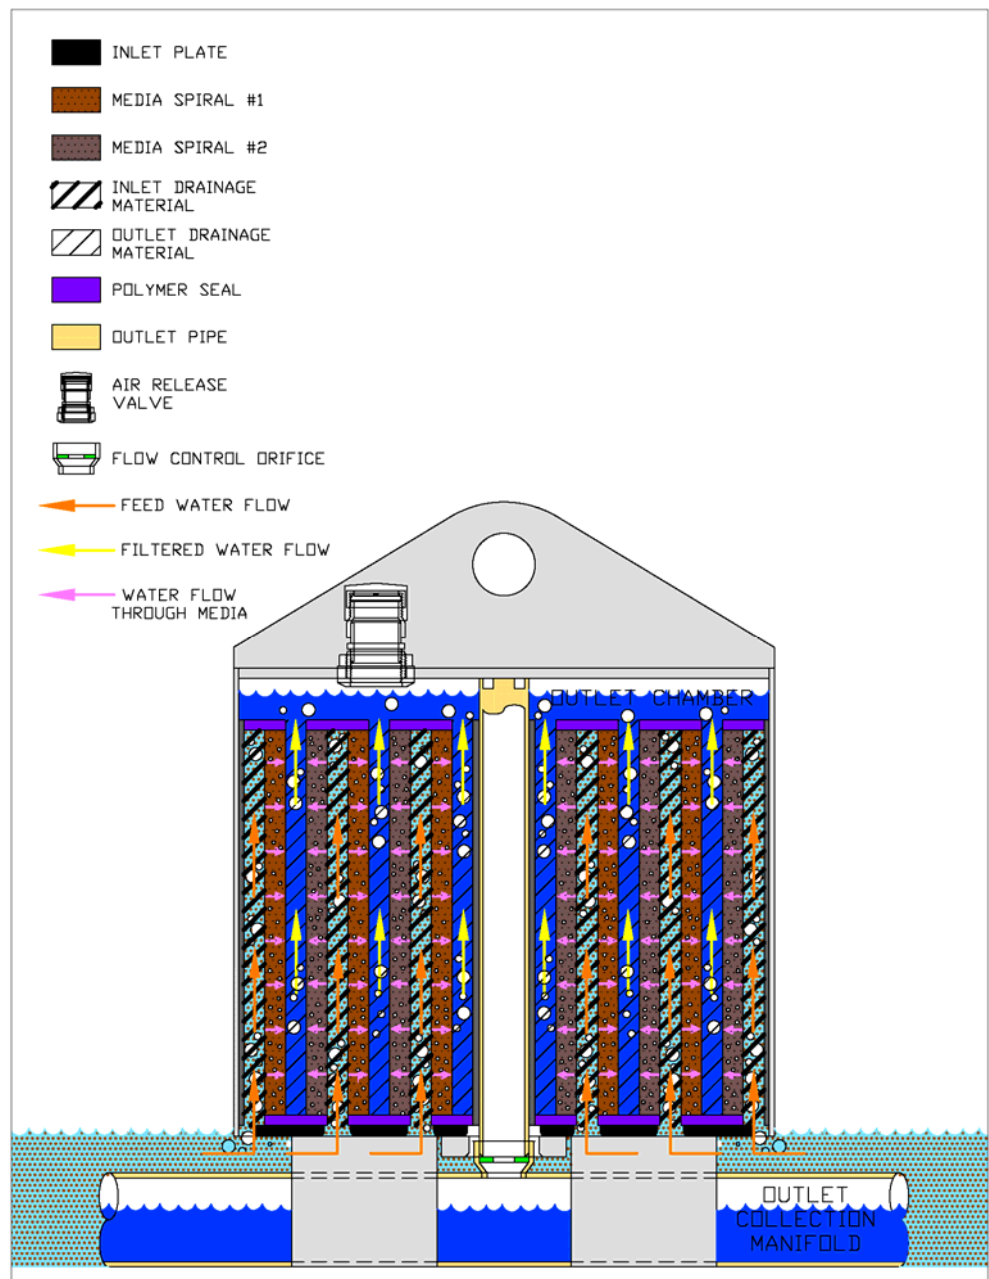

Figure A-4: Siphon Break
- D. When air enters the filter, the siphon breaks (Figure A-4), and a gravity-driven backwash occurs with all of the water flowing from the outlet chamber backwards through the filter media (Figure A-5). This backwash has the effect of dislodging particles captured in the filtration layers and re-establishing porosity. Dislodged particles are transported back in to the filter vault and accumulate on the filter vault floor.